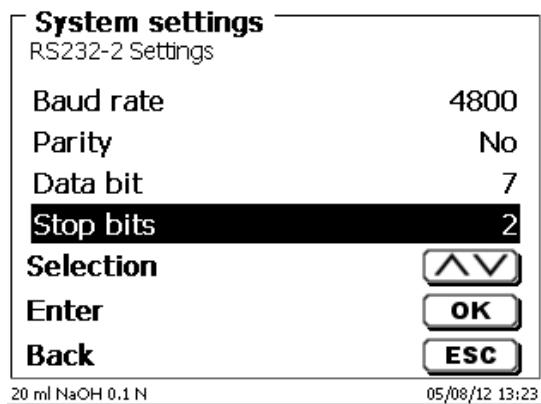

Fig. 177
- i** The settings of the RS-232-2 interface **must** be changed to 4800, No, 7, 2 (Fig. 177).